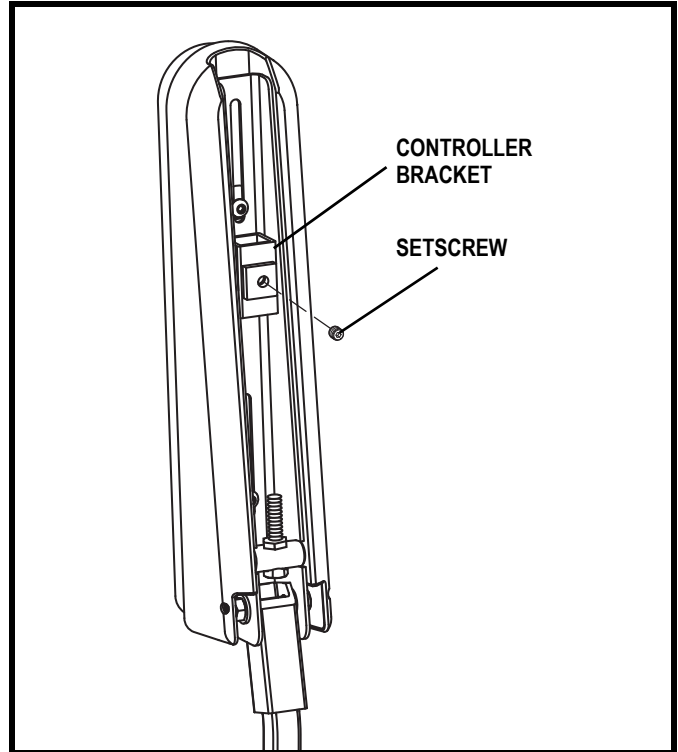

Figure 19. Underside of Armrest (Contour Seat)
2. Loosen the setscrew on the controller bracket. **See figure 19.**